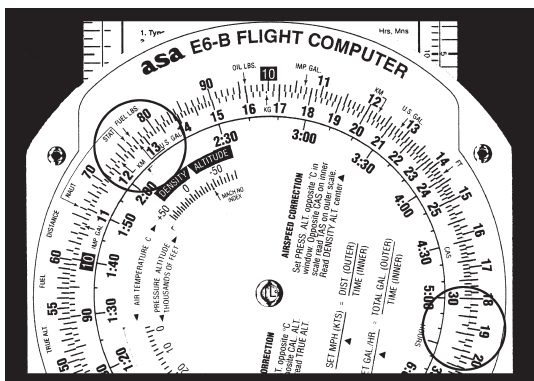

Figure 11
2. Read 192 pounds on the outer scale opposite of 32 gallons on the middle scale. See Figure 11.